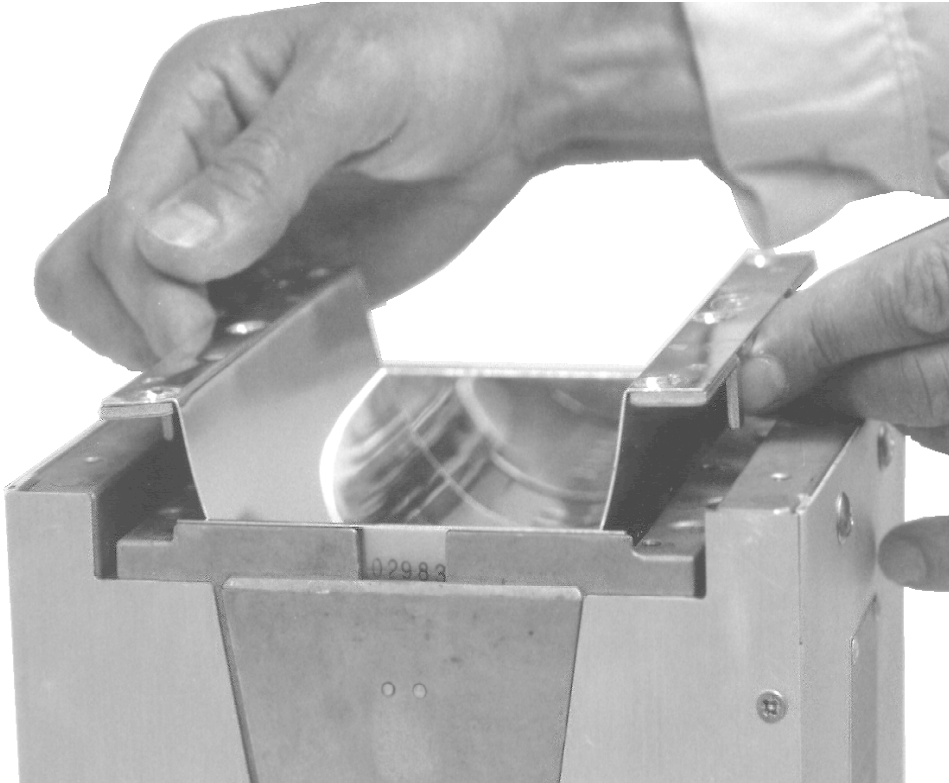
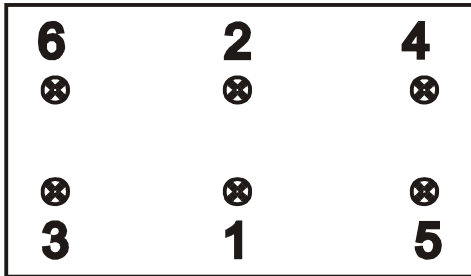

Figure 33. Reflector Removal or Replacement (I330M/I311M)
Figure 36. Reflector Screw Tightening Sequence (I310M/I311M)
3. Refer to Figure 33 on page 95, and remove and discard the two end reflectors and the gaskets underneath. If evidence of arcing is present (dark or burned spots), clean the gasket grooves with emery cloth to remove all oxide.
7. Align the reflector squarely over the opening. With gentle pressure and a rocking motion, slide the reflector down in place. It should not bind against the end reflectors as it goes into place. As a final motion, grasp the sides of the reflector and gently force them together a small amount, then settle the reflector down over the mounting surfaces (Figure 33). Start the six flat head screws in the reflector but do not tighten. Tighten the six screws in the sequence 1-6 as shown in Figure 36 to a snug position; finally tighten to 3.4 N-m (30 inch-lbs.) using a torque-controlled screwdriver. Repeat tightening the screws according to the illustrated sequence, and at the specified torque.